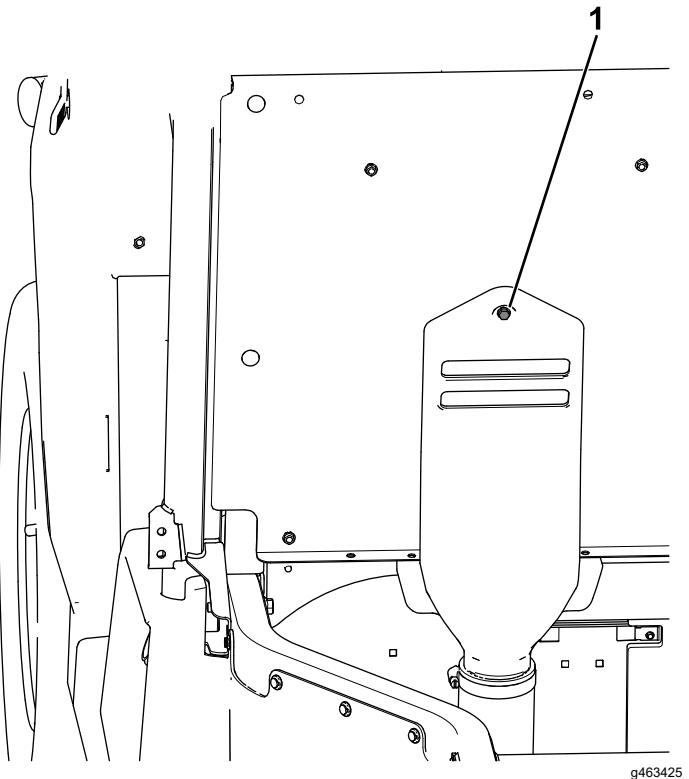

Figure 24
- Insert the captive bolt attached to the CVT-intake hood into the hole shown in the seat panel (Figure 24).